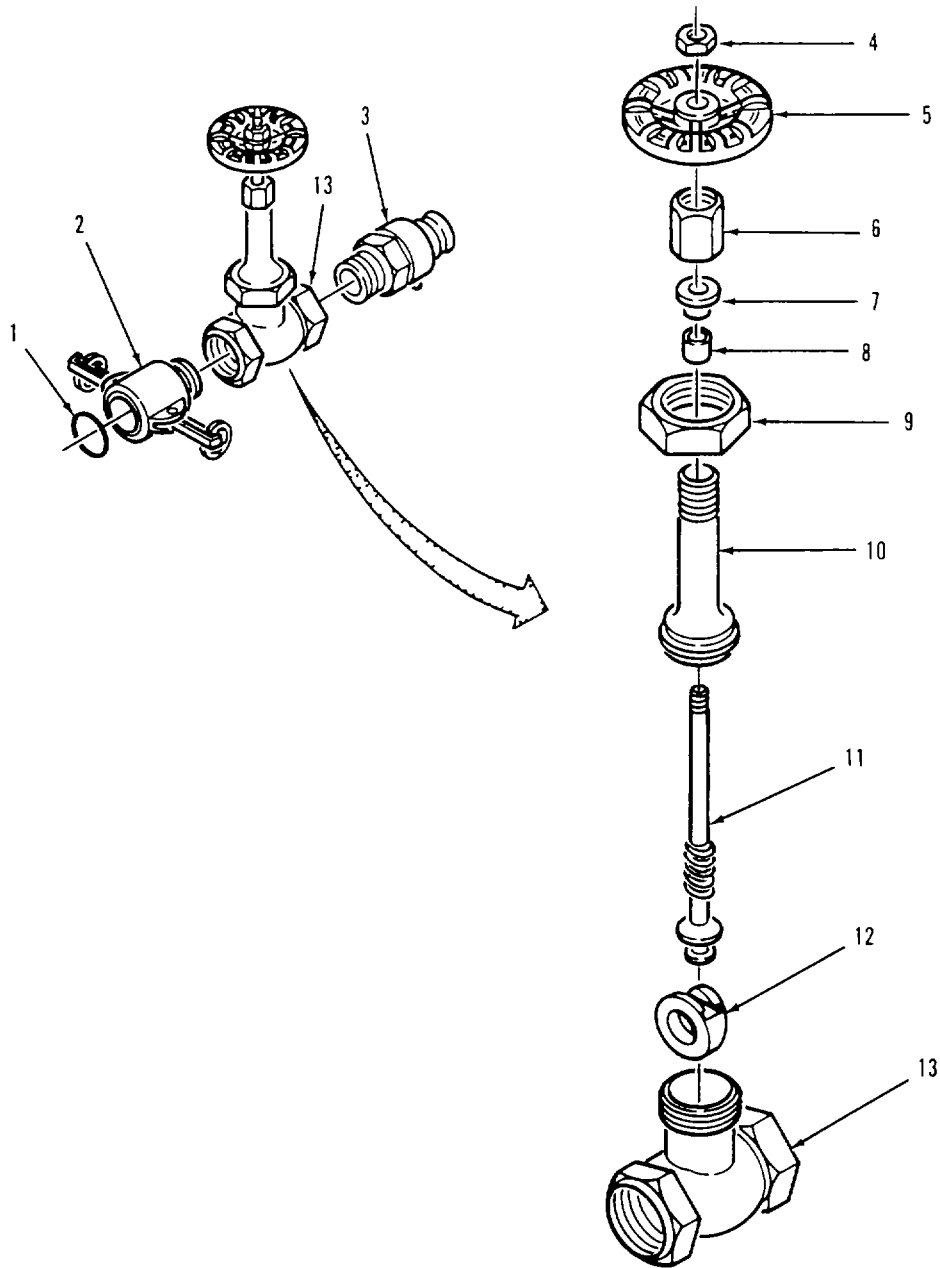

Figure 4-2. Gate Valve Assembly (2-inch) Disassembly.
- a. Disassembly. Refer to figure 4-2.
- (1) Clamp gate valve body (13) in vise.
- (2) Remove gasket (1) from female coupling (2).
- (3) Using pipe wrench, unscrew female coupling (2) from valve body (13).
- (4) Using pipe wrench, unscrew male coupling (3) from valve body (13).
- (5) Turn handwheel (5) fully clockwise to close valve.
- (6) Remove handwheel nut (4) and handwheel (5) from stem (11).
- (7) Using pipe wrench, remove bonnet ring (9) from valve body (13) Lift bonnet (10) and attached parts from valve body.
- (8) Slide disc (12) from end of stem (11).
- (9) Unscrew packing nut (6) from bonnet (10).
- (10) Remove packing gland (7) and packing (8) from bonnet (10).